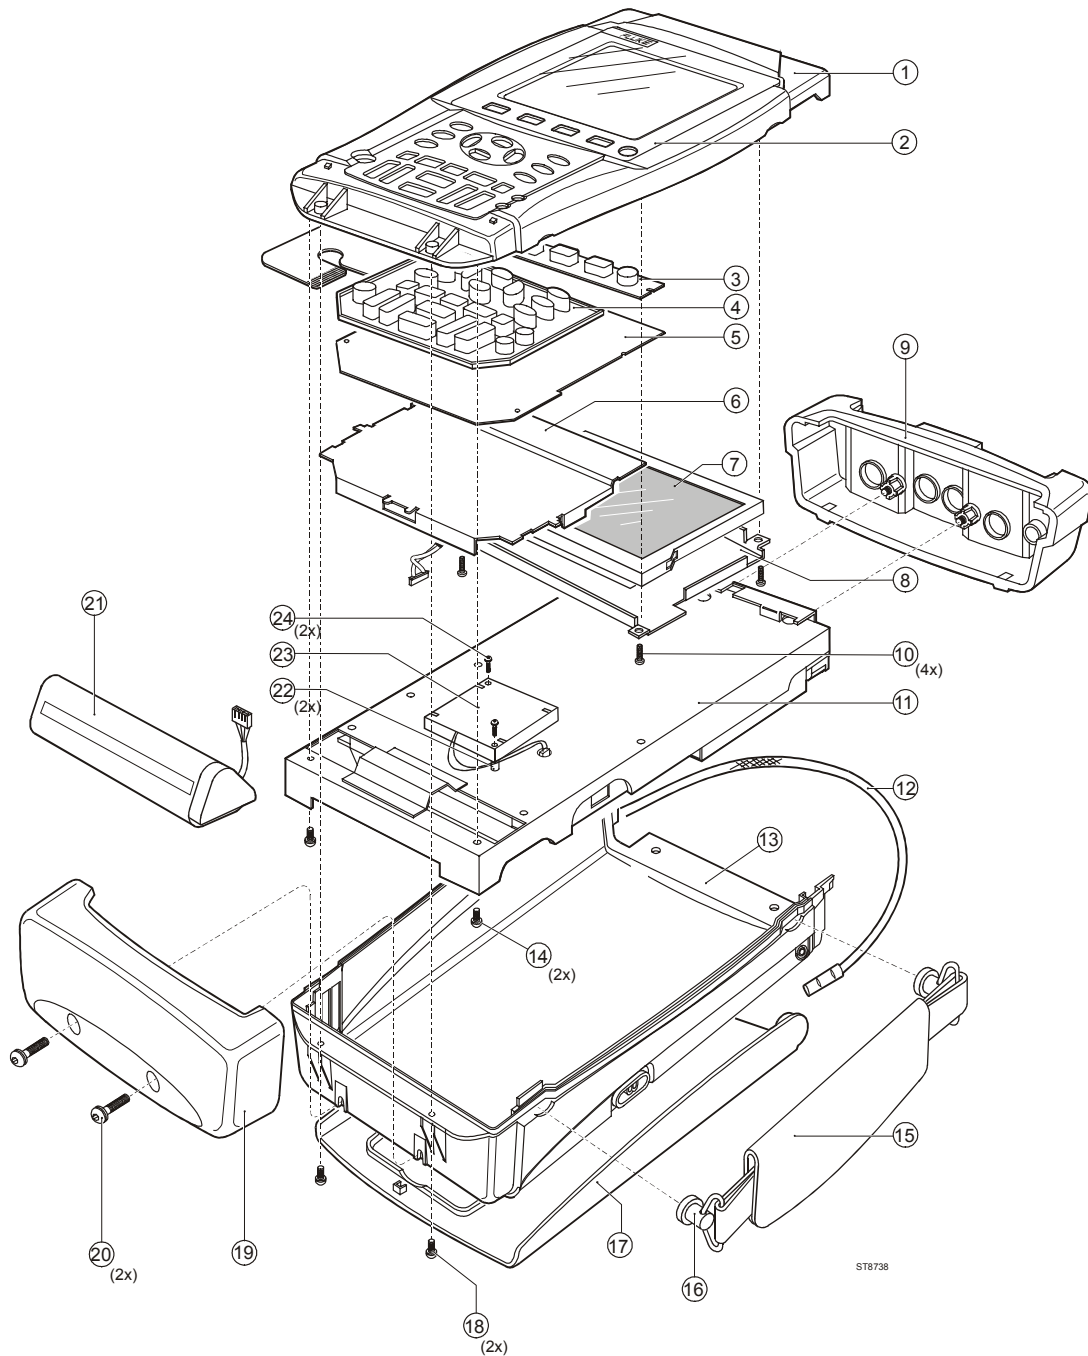

Figure 6-5. Final Assembly Details
Use the following procedure to remove the tilt stand and hang strap (Figure 6-5, item 15 and item 10).
The side-strap (figure 6-5, item 15) can be attached at the right or left side of the test tool. Use the following procedure to replace the strap, or to change the strap position.
1. To remove the strap, unfold the strap ends (provided with Velcro tape), and pull the ends out of the strap holders (item 16).
Referring to Figure 6-5, use the following procedure to remove the main PCA unit.
There are no serviceable parts in the display assembly. Referring to Figure 6-5, use the following procedure to remove the display assembly.
The LCD window/decal (Figure 6-5, item 2) is glued on the top cover. To replace it do the following:
Referring to Figure 6-5, use the following procedure to remove the keypad and the keypad foil.
Reassembling the test tool is the reverse of disassembly. However you must follow special precautions when reassembling the test tool. Refer to figure 6-5.